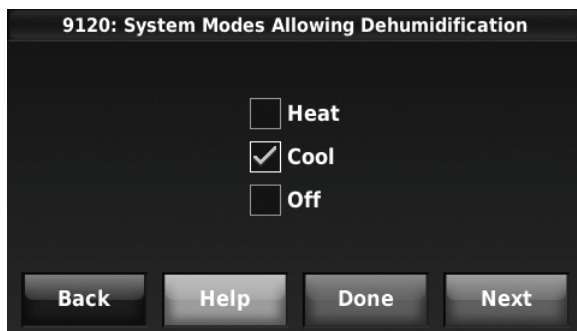

Fig. 230.
5. Select the system mode(s) to allow dehumidification. See Fig. 230.